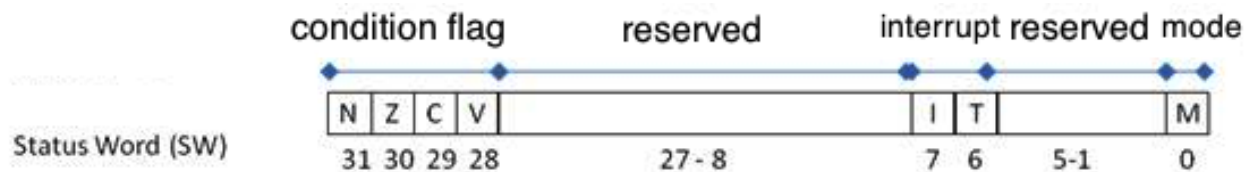

Figure 2.3: Cpu0 status word (SW) register
The Cpu0 status word register (SW) contains the state of the Negative (N), Zero (Z), Carry (C), Overflow (V), and Interrupt (I), Trap (T), and Mode (M) boolean flags. The bit layout of the SW register is shown in Figure 2.3 below.